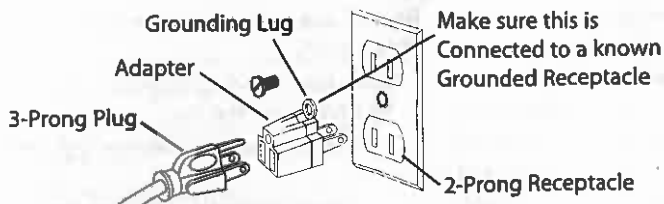

Figure 3 - 2-Prong Receptacle with Adapter
- A temporary 3-prong to 2-prong grounding adapter (See Figure 3) is available for connecting plugs to a two pole outlet if it is properly grounded.